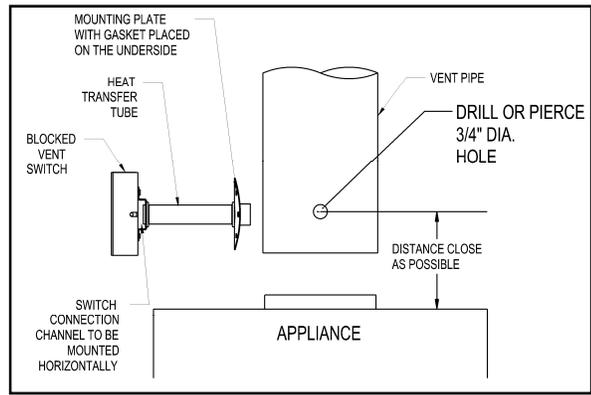

Figure 18
1. Drill or pierce a clean hole ( $3/4 \pm 1/32$ " diameter) in the vent pipe near the appliance vent outlet. (See Figure 18)